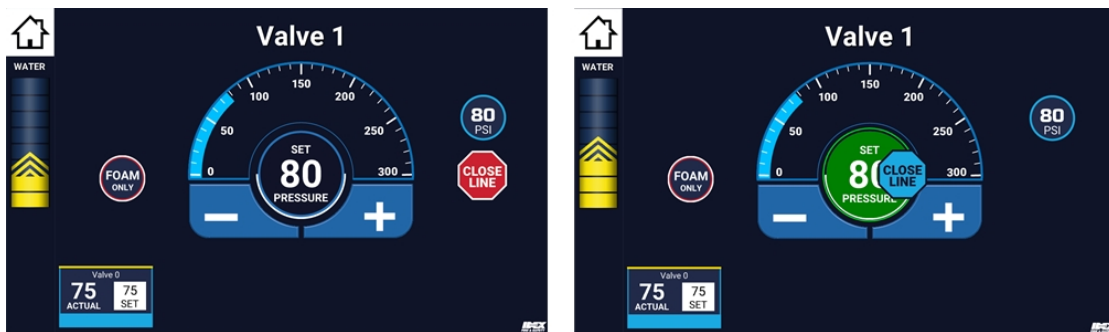

Figure 6. Closing A Foam Discharge Sequence
- A. On SCC Home screen, touch desired active FOAM discharge. Displays Valve X screen (discharge valve control screen) displays. See left-hand side of Figure 6.
- B. On Valve X screen (discharge valve control screen), swipe CLOSE LINE bubble to target (center of widget). See right-hand side of Figure 6.